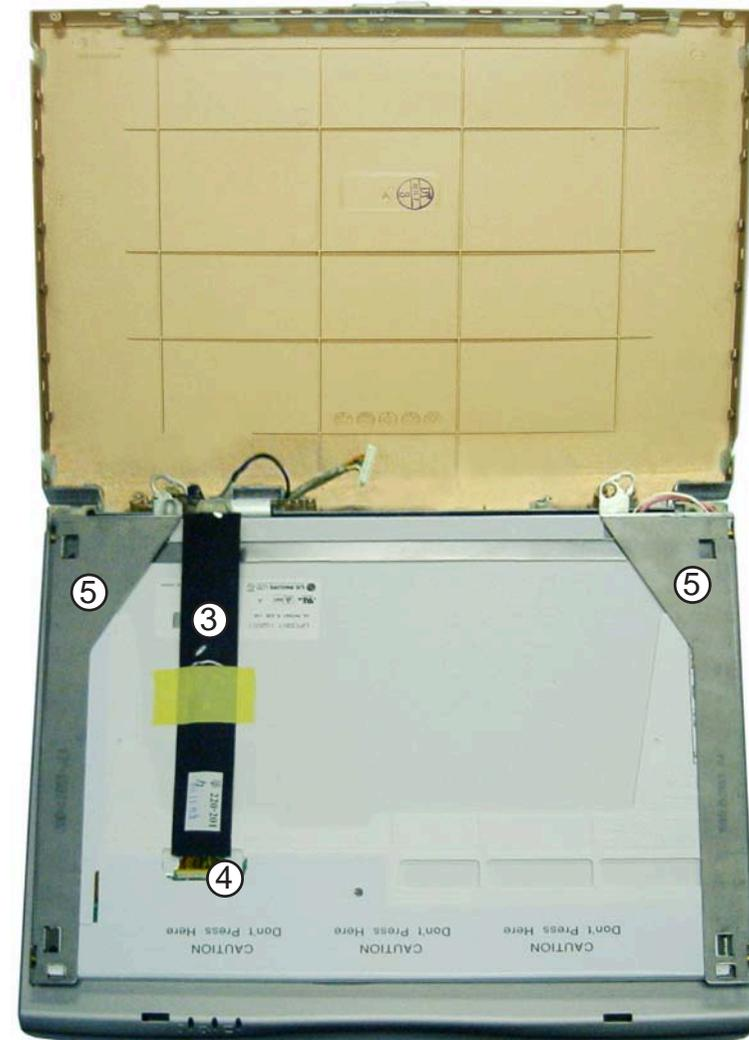

figure 2-24
5. Lift the LCD screen and bracket out of the case and place it atop the keyboard (figure 2-24).